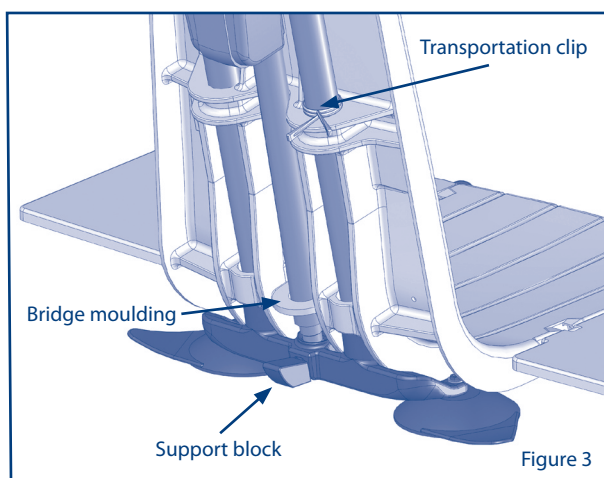
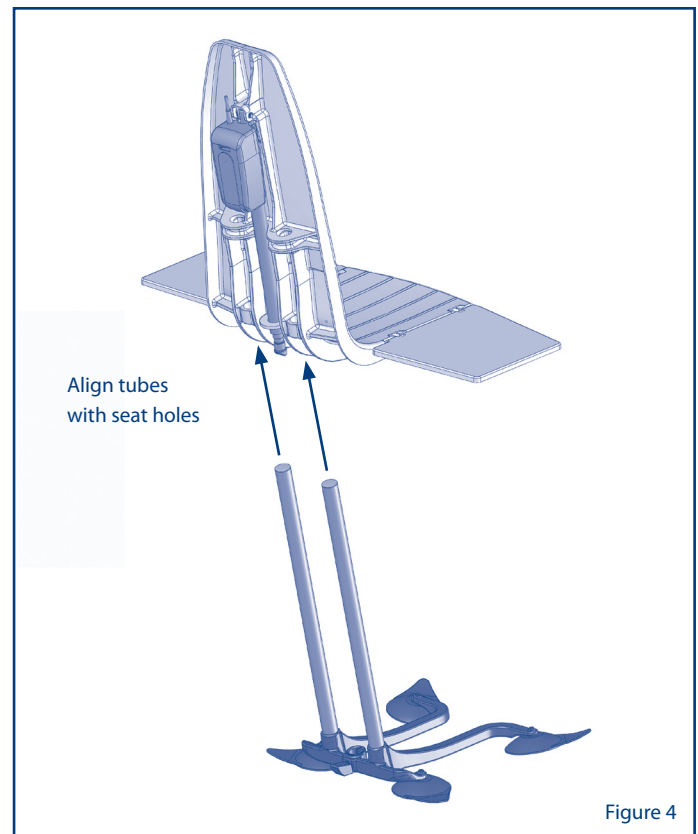

Figure 3
Figure 4
- A transportation clip (see fig 3)
The Neptune should be separated into two sections to reduce the weight carried. To do this, remove the transportation clip, fold the side flaps in, hold the seat with both hands and lift until it slides off the tubular frame. Place the seat carefully on its side on the floor. Pick up the base frame by its tubes and moisten underneath each sucker (this will create a better suction). Now slide the frame on its rear suckers down the back slope of the bath. The support block on the base of the Neptune (see fig 3) should be as close as possible to the back of the bath. When the Neptune reaches the flat bottom of the bath, press all four suckers firmly to gain a secure grip on the surface. Lift the seat upright, ensuring both side flaps are folded in. For ease of handling, the hand control can be placed on the seat under the folded side flaps. To fit the seat on to the base frame, align the lower two holes located behind the seat with the tubes (see fig 4) and lower the seat gently, ensuring that the tubes also slide through the upper two holes.
- The transportation clip on the back of the bath lift (see fig 3) must be removed before the Neptune can be operated. Do not discard the transportation clip as it will be needed for moving the Neptune.
- Should you elect to move the base frame and seat assembly as one piece, we recommend that the transportation clip is correctly in place – (see fig 3).